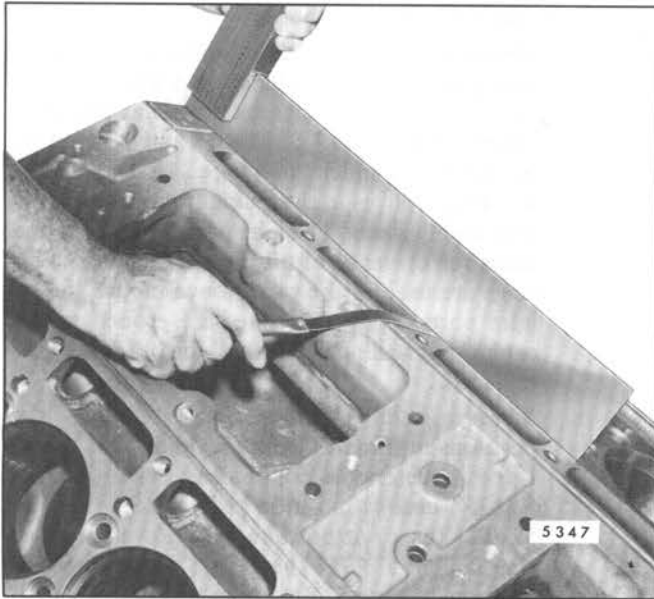

Fig. 6 – Checking Top Surface of Cylinder Block
2. Check the top of the block (cylinder head contact surfaces) for flatness with an accurate straight edge and a feeler gage (Fig. 6).